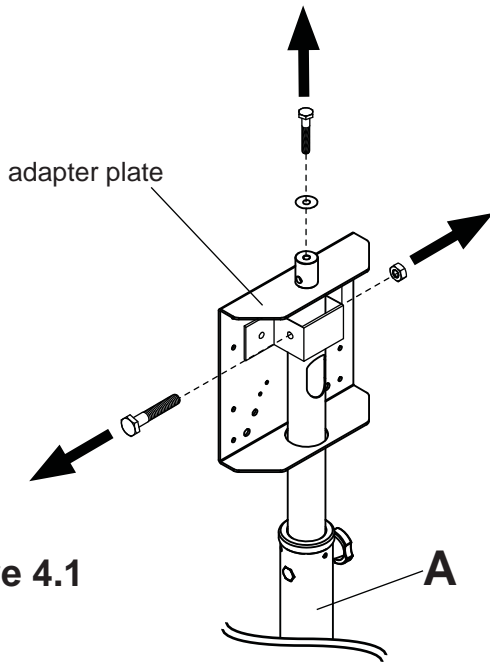
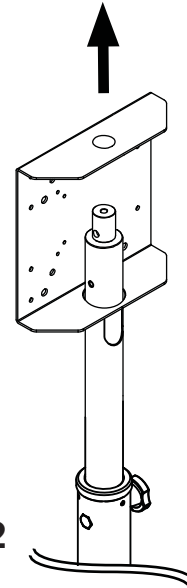

Figure 4.1
Figure 4.2
- 4 Remove screw and washer from top of adjustable column (A) using a 1/2" socket wrench as shown in figure 4.1. Remove hex nut and bolt from back of adapter plate. Slide adapter plate of adjustable column (A) off as shown in figure 4.2.